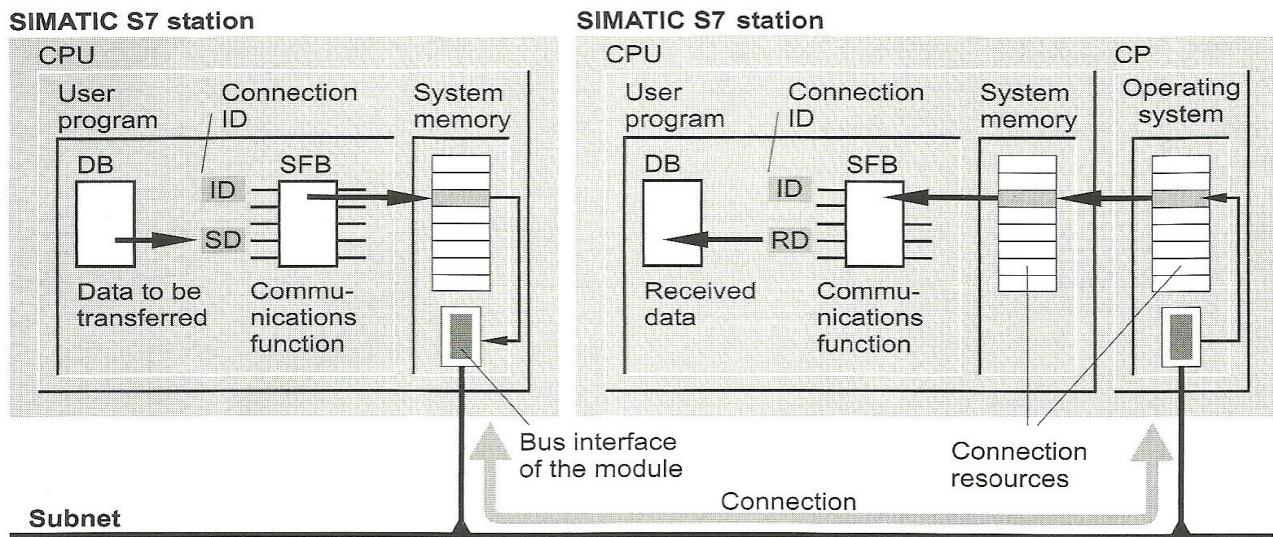

Figure 1.8 Data Exchange Between Two SIMATIC S7 Stations
Using an S7 connection, Figure 1.8 shows the objects involved in communication between two stations. The user program of the left-hand station contains the data to be transmitted in a data block (DB). The communications function in the example is a system function block (SFB). Assign the parameter RD with a pointer to the data to be sent, and trigger the transmission from the program. The communications